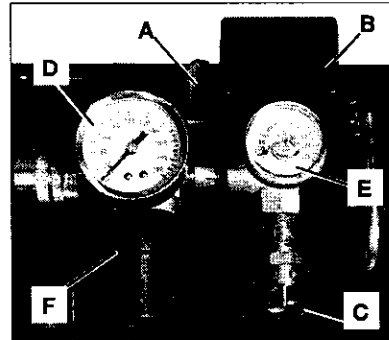

Fig. 1
**ON/AUTO - OFF Switch (A) Fig. 1:** Turn this switch ON to provide automatic power to the pressure switch and OFF to remove power at the end of each use.
**Pressure Switch (B) Fig. 1:** The pressure switch automatically starts the motor when the air tank pressure drops below the factory set "cut-in" pressure. It stops the motor when the air tank pressure reaches the factory set "cut-out" pressure.
**Safety Valve (C) Fig. 1:** If the pressure switch does not shut off the air compressor at its cut-out pressure setting, the safety valve will protect against high pressure by "popping out" at its factory set pressure (slightly higher than the pressure switch cut-out setting).
**Outlet Pressure Gauge (D) Fig. 1:** The outlet pressure gauge indicates the air pressure available at the outlet side of the regulator. This pressure is controlled by the regulator and is always less than or equal to the tank pressure.
**Tank Pressure Gauge (E) Fig. 1:** The tank pressure gauge indicates the reserve air pressure in the tank.
**Regulator (F) Fig. 1:** The air pressure coming from the air tank is controlled by the regulator knob. Turn the knob clockwise to increase pressure and counterclockwise to decrease pressure. To avoid minor readjustment after making a change in pressure setting, always approach the desired pressure from a lower pressure. When reducing from a higher to a lower setting, first reduce to some pressure less than that desired, then bring up to the desired pressure. Depending on the air requirements of each particular accessory, the outlet regulated air pressure may have to be adjusted while you are operating the accessory.